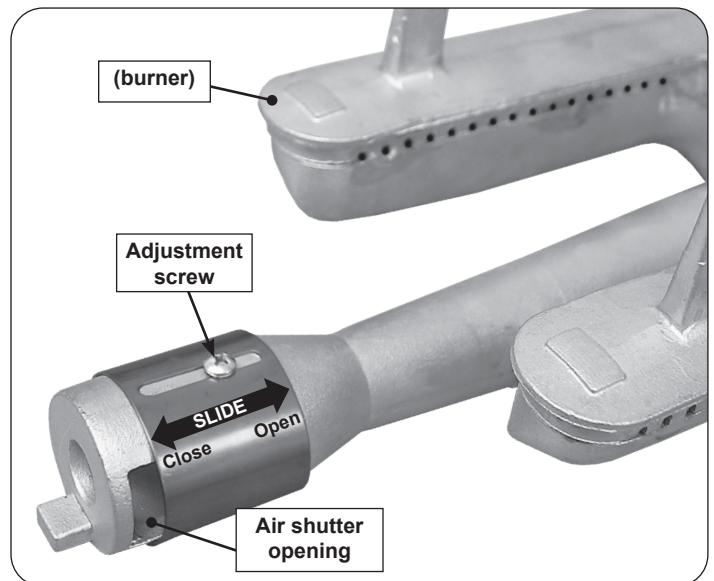

Fig. 47-2 Main burner air shutter adjustment detail
1. To adjust the air shutter, loosen the adjustment screw with a Phillips screwdriver. Then slide the shutter to open or close it. See Fig. 47-2 for details.